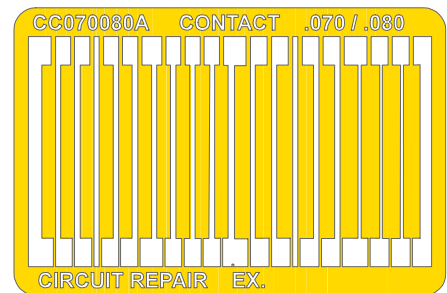

Figure 2: Select a replacement contact that matches the missing contact.
8. Select a new edge contact that most closely matches the edge contact to be replaced. (See Figure 2).